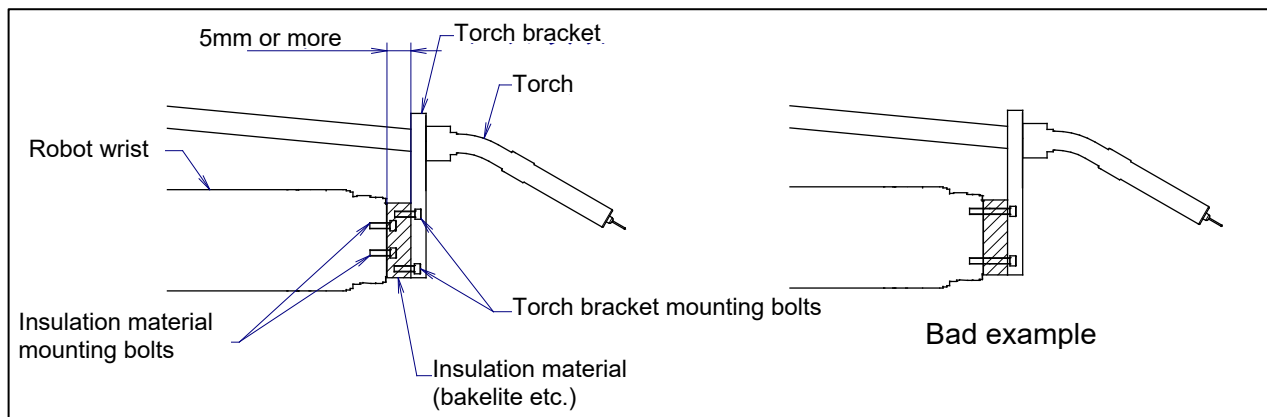

Fig. C.1 (a) Insulation at the wrist
- Insulate the end effector mounting surface. Insulation material which is inserted between the end effector mounting surface and the welding torch bracket must be different, and bolt them separately referring to Fig. C.1 (a).